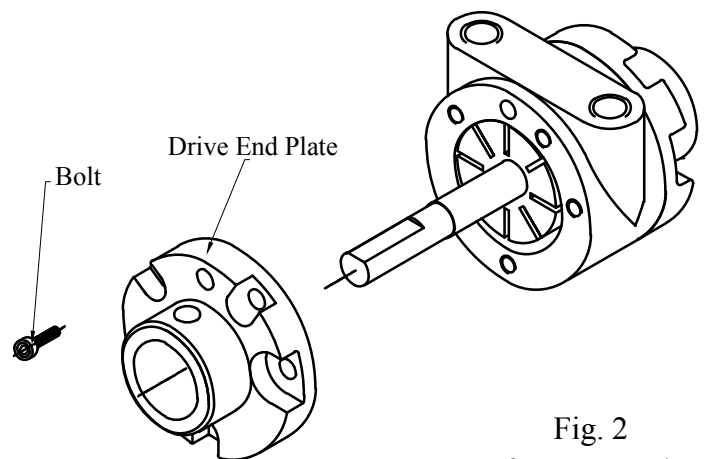

Fig. 2
4. Remove the drive end plate. Refer to fig. 2.